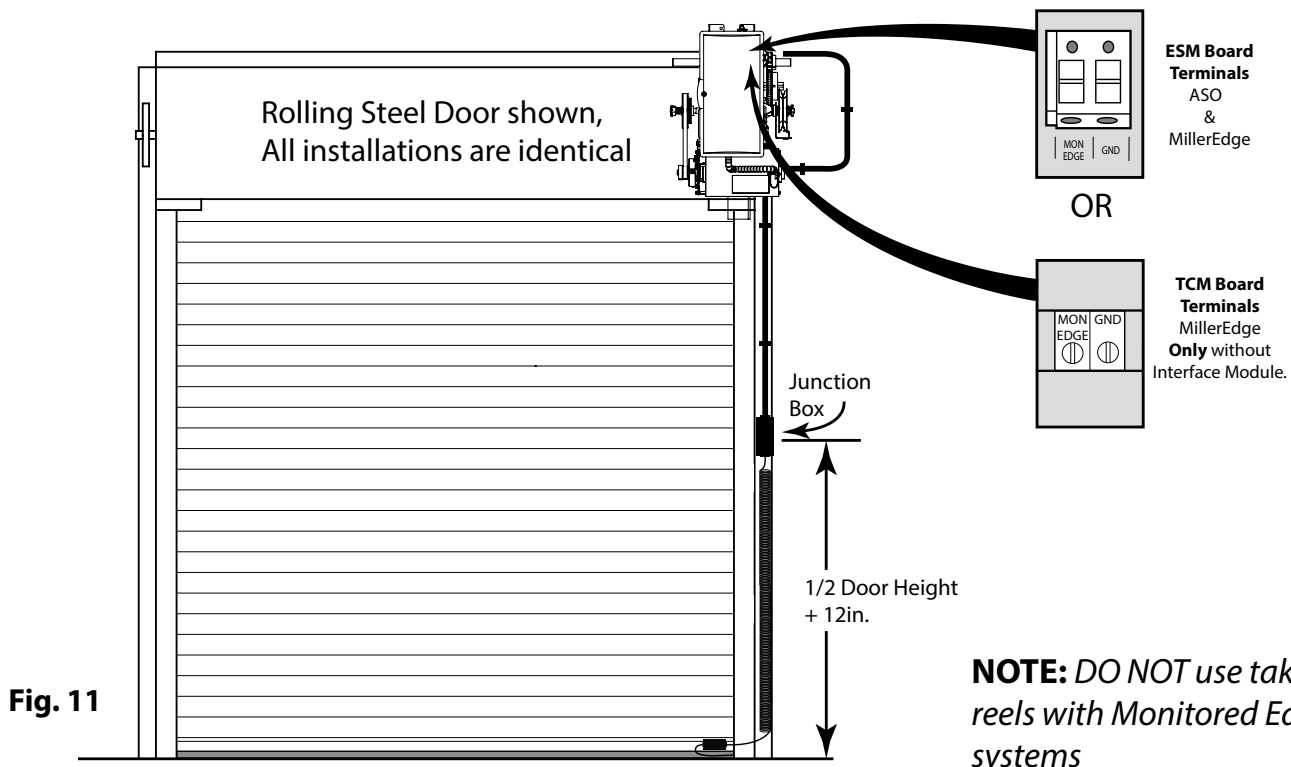

Fig. 11
- 1) Mount junction box to wall one half the door height plus 12 inches from floor. Fig. 11